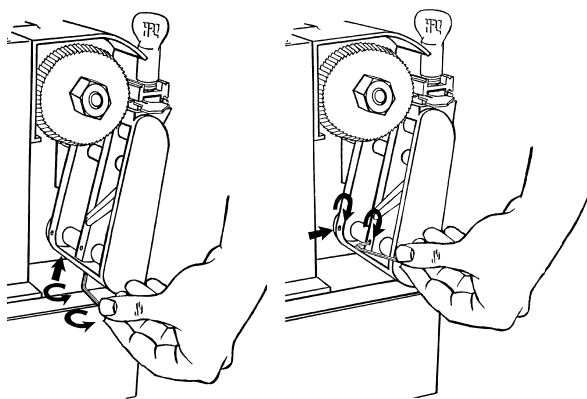

Fig. 2. Loosen four (4) set screws
- 8) If the cutter is too far from the the tip of the original key, use a 5/64 inch allen wrench to loosen the four set screws on the lower inside and bottom of the Pivot Arm (CM-1024XB) (see Fig. 2).